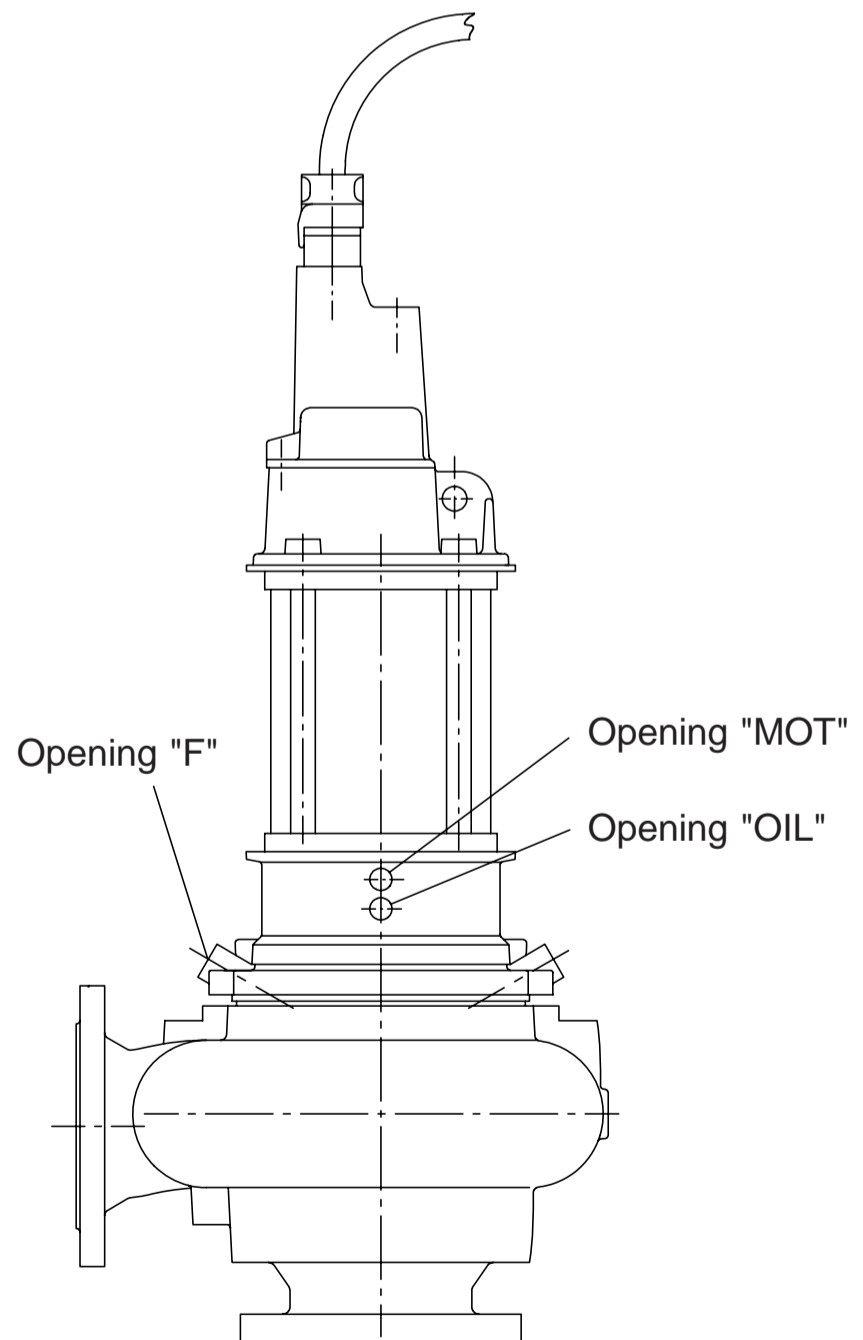

Fig. 7
KEY FOR SYMBOLS ON FIG. 7,8,9
(Fig. 7)
Stand pump vertically on its suction flange. Remove screw plug "MOT" (Fig. 7, 8 or 9) with copper washer (536) so that any liquid can run out. Do the following repairs according to what comes out of the motor housings: